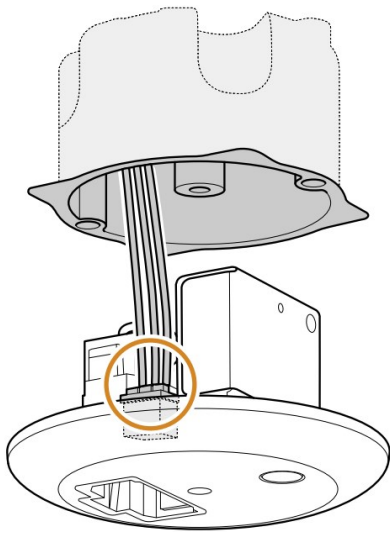

Figure 4
5. Connect the power supply to the terminal block provided, see **figure 4**.